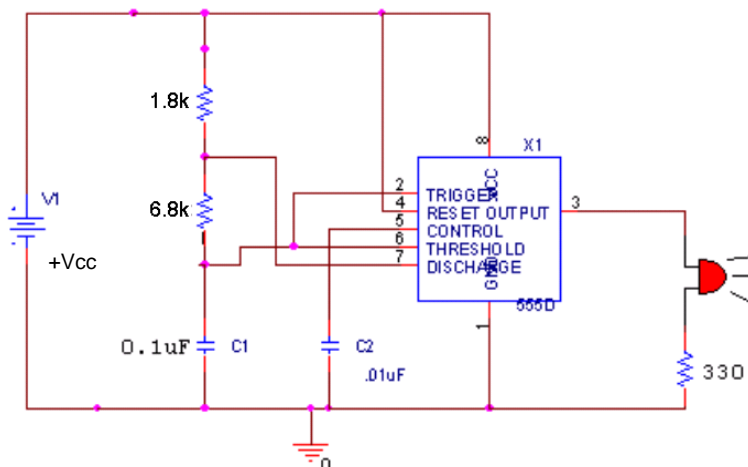

Figure A-6.
- Wire the astable multivibrator shown in Figure A-6 on your protoboard. Use the =5V DC output from the Analog Discovery board for V_{CC}. Use any color LED. It does not have to be red. Please pay close attention to the 555 Timer Chip pinouts, which are described in both the video and PowerPoint slides for this class. *Note: If you do not have components that match the ones in the circuit exactly, use the closest value. For example, for the 330Ω resistor, use the 470Ω in your kit.*